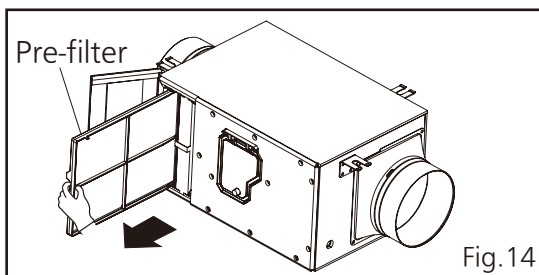

Fig.14
2. Pull out the pre-filter, clean it with water once in 3 months when filter indicator lights on with buzzer sound "Pi-Pi-Pi-...". (Fig.14)